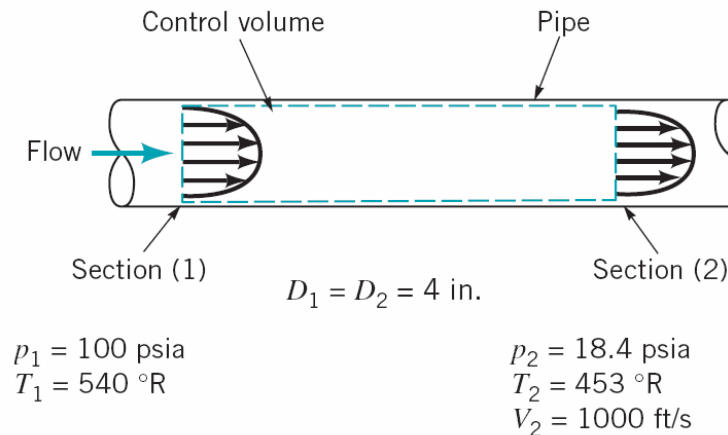

Figure E5.2
- Air flows steadily between two sections in a long, straight portion of 4-in. inside diameter as indicated in Figure E5.2. The uniformly distributed temperature and pressure at each section are given. If the average air velocity (Nonuniform velocity distribution) at section (2) is 1000ft/s, calculate the average air velocity at section (1).